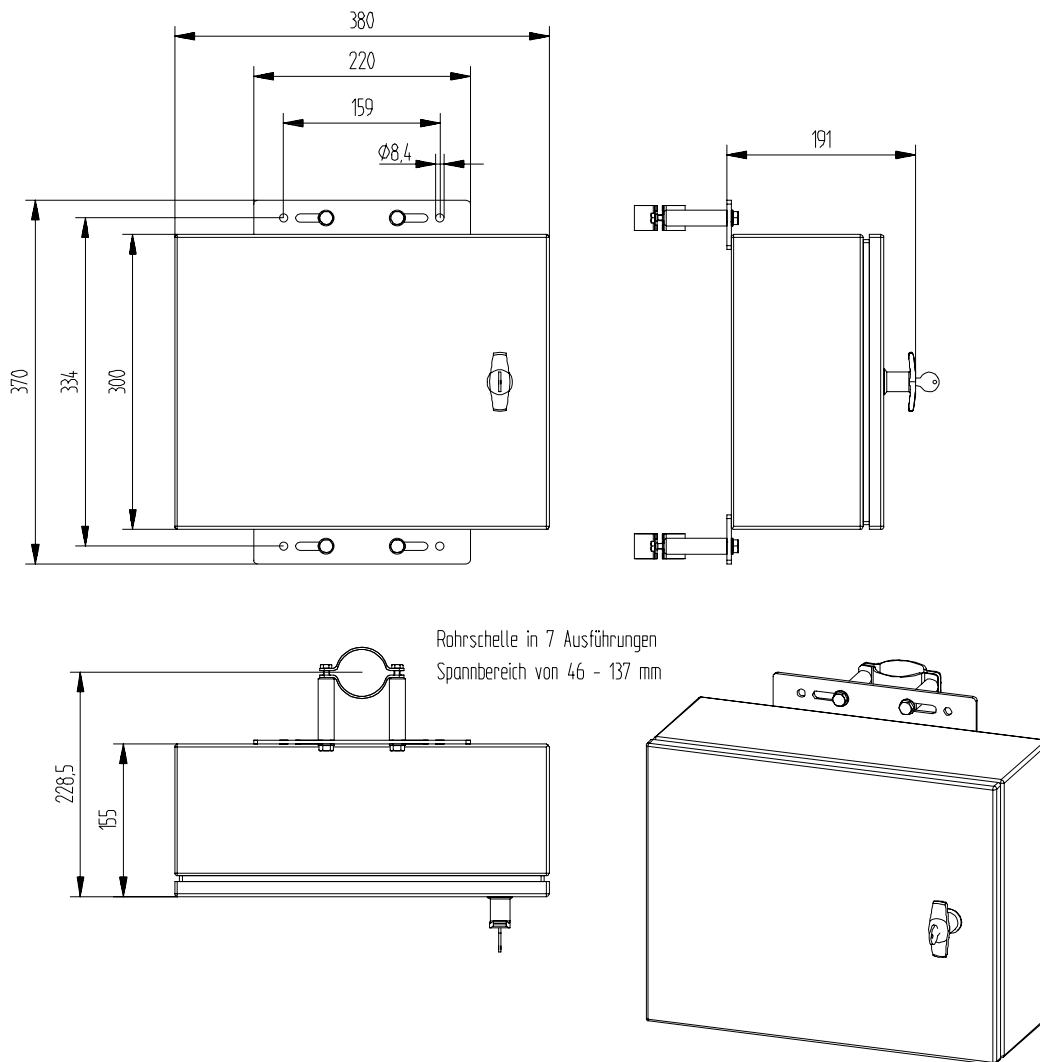

Figure 7: Dimension illustration of the case version A (in mm)
- diameter 8.4mm, see **Figure 7** (applies for 9.1756.10.x0x)